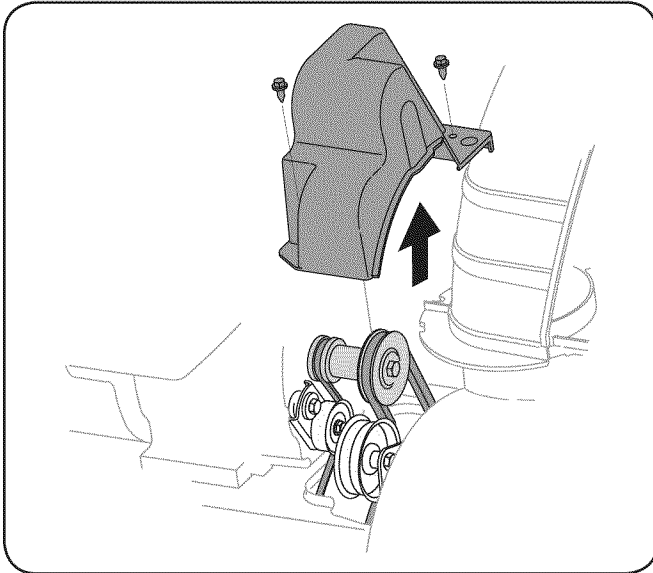

Figure 8-1
2. Remove the plastic belt cover on the front of the engine by removing the two self-tapping screws. See Fig. 8-1.
1. To prevent spillage, remove all fuel from tank by running engine until it stops. Remove the plastic belt cover on the front of the engine by removing the two self-tapping screws. Refer to Fig. 8-1.